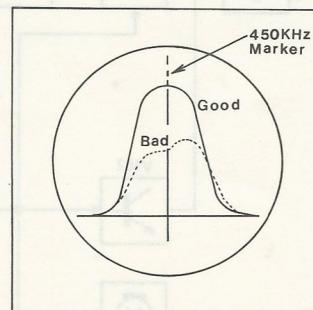

Fig. 4
- (c) When the waveform of the oscilloscope (Fig. 4) is confirmed, heighten the input sensitivity of oscilloscope as possible, and lower the output of sweep generator. (At this moment, if the waveform seems to be under the influence of external radio wave, change the receiving frequency of the receiver until the influence is minimized. And then perform IF adjustment).